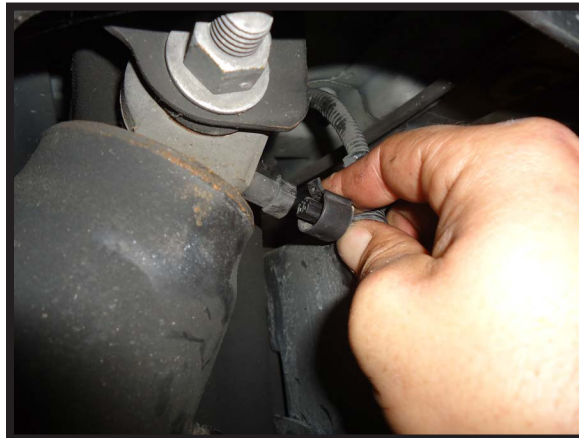

FIGURE 3
4. LOCATE AND REMOVE THE ELECTRICAL CONNECTOR FROM THE TOP OF THE AIR SHOCK. (FIGURE 3)